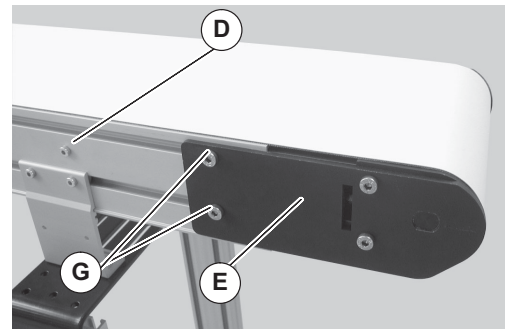
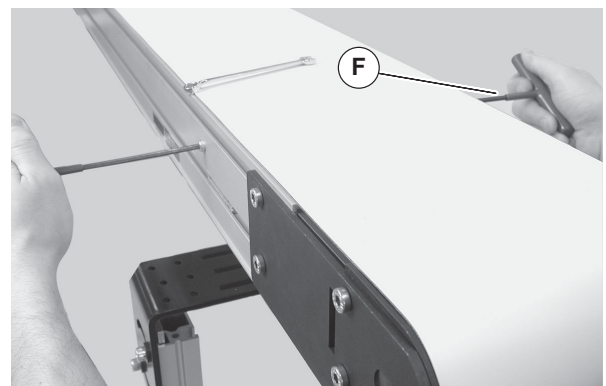

Figure 28
Figure 29
- On tension end of the conveyor, identified by the pinion locking screw (Figure 28, item D), loosen the two tail clamp bolts (G), on both sides of conveyor.
- With 5mm hex wrench, hold pinion torque screw (Figure 29, item F). Loosen the pinion locking screw (Figure 28, item D) and turn the pinion torque screw (F) to extend head plate assembly.
16. After adjusting proper tensioning, tighten the pinion locking screw (Figure 28, item D) to 69 in-lbs (7.8 N-m), and tighten tail clamp bolts (Figure 8, item G) on both sides of conveyor to 146 in-lb (16.5 N-m).